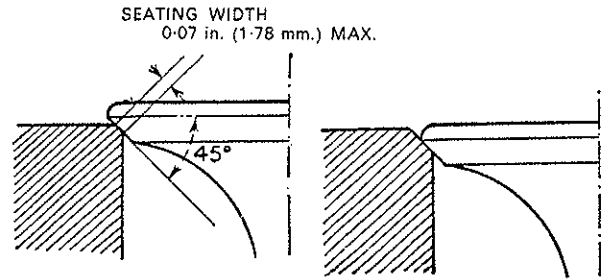

Fig. B.4. Valve seating
3. The grinding should be continued in this manner until a continuous but narrow seating has been obtained on both the valve and the seating. The seatings should not be more than 0.070 in. (1.78 mm.) in width. (See Fig. B.4.)
2. It is always better to replace a badly burnt or pitted valve as extended refacing will bring it very low on its seating by reason of the consequent reduction in the effective diameter of the valve face, and "pocketing" will result (see Fig. B.4). This condition is detrimental to the running of the engine and will cause overheating and loss of power. The valve face should be machined only until it is just true and clear of marks, to the standard angle of  $45^\circ$  for inlet and exhaust. These angles are reckoned from the top face of the valve head. Standard dimensions of valves are given in "GENERAL DATA" at the beginning of this manual. It should be noted that inlet and exhaust valves are of different sizes.
5. It is important to ensure that the finished seat width is not greater than 0.070 in. (1.78 mm.) and that the valve seats correctly as shown in Fig. B.4. After refacing the valve seats, the valves should be ground in and only a little grinding should be necessary to produce a good seating.